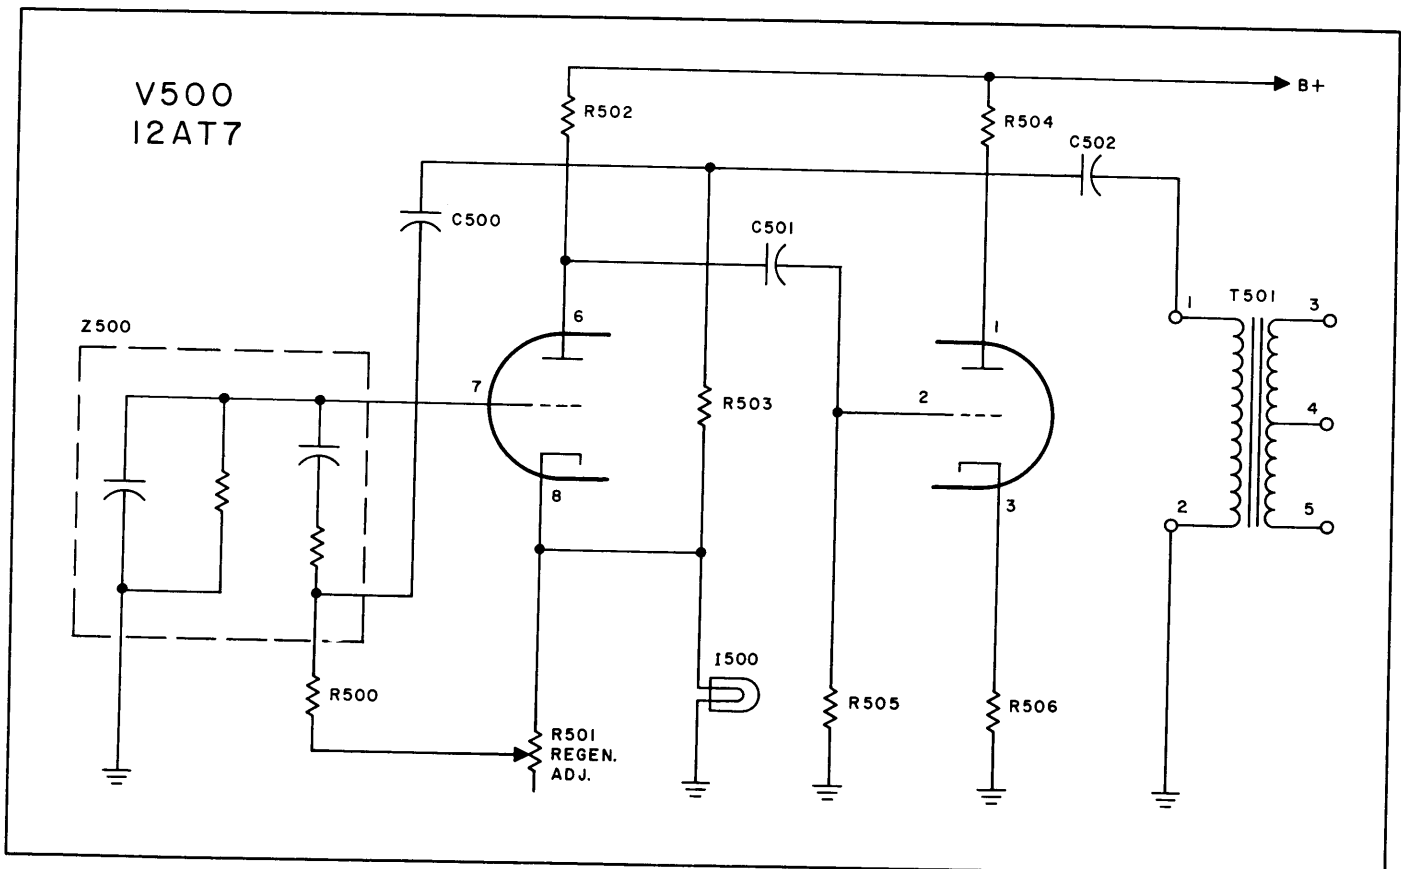

Figure 4-2. Schematic Diagram, Audio Oscillator, TTG-2
b. DETAILED CIRCUIT ANALYSIS, AUDIO OSCILLATOR, AMPLIFIER, AND OUTPUT NETWORK. - Detailed circuit analysis for the audio oscillator, audio amplifier, and audio output network used in the TTG-2 are given in the following paragraphs. The 935-cps and 2805-cps oscillator and amplifier stages are identical; therefore only the 935-cps stage is discussed in paragraphs (1) and (2) below.
(1) AUDIO OSCILLATOR. - Refer to figure 4-2. The TTG-2 employs a Wein bridge type oscillator comprising a 12AT7 (V500), a frequency-determining network (Z500), a regeneration control (R501), and the primary of transformer T501. R501 provides adjustment of oscillation for optimum operation. A thermal resistor in the form of lamp I500 limits current variations to prevent changes in oscillator output level. The output of the oscillator is coupled to the audio amplifier through transformer T501.